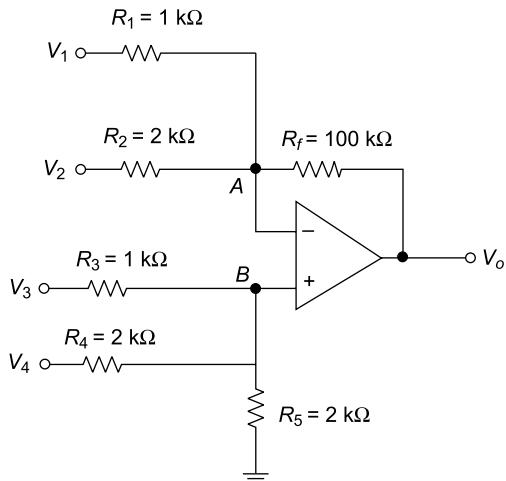

Fig. 5.90
26. Figure 5.90 shows an operational amplifier circuit. Determine the output voltage V_o . Assume $V_1 = 3\text{ V}$, $V_2 = -5\text{ V}$, $V_3 = 2\text{ V}$ and $V_4 = -2\text{ V}$